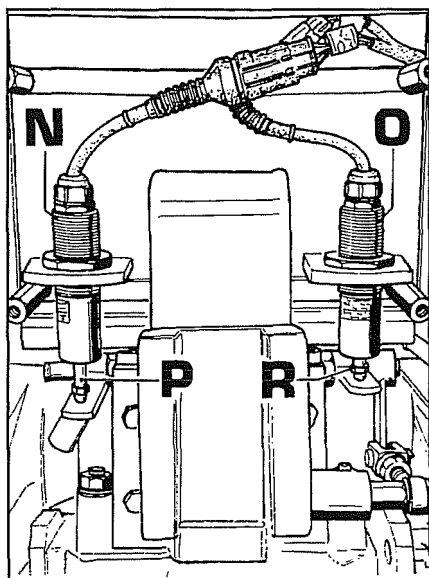

Fig. 42
1. Remove the rear guard attached to the seat mounting to access the sensors and their operating levers (see Fig.42) where **N** is the position controlling sensor and **O** the draught controlling sensor.
3. Check to make sure that the tips **P-R** are in good contact with the corresponding levers and their travel is positioned more or less as shown in Fig.42.
POSITION SENSOR (N Fig.42):
The 1.8 a 3.4 Volt scale is with the lift lowered all the way and moving sensor tip **P** (Fig.42) by hand all the way out and all the way in.
DRAUGHT SENSOR (O Fig.42):
The 1.8 a 3.4 Volt scale is found with the lift lowered all the way and moving sensor tip **R** (Fig.42) by hand all the way out and all the way in.
NB - To permit tip **R** travel, disconnect the coupling rod between the 3-point hitch and the sensor control lever (see Fig. 42).
1. Remove the rear guard attached to the seat mounting to access the sensors and their operating levers (see Fig.42) where **H** is the position controlling sensor and **I** the draught controlling sensor.